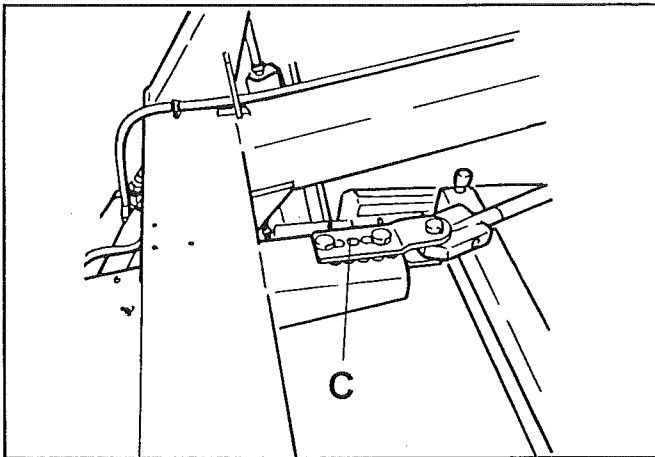

Fig. 5
- FIG. 5** The hydraulic cylinder is adjusted to max. swing in working position by mounting the clamp in the holes **C**.